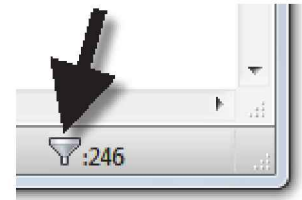

FIGURE 8-3.9
17. Click the **Filter** icon at the lower right corner of the window; see Figure 8-3.9.